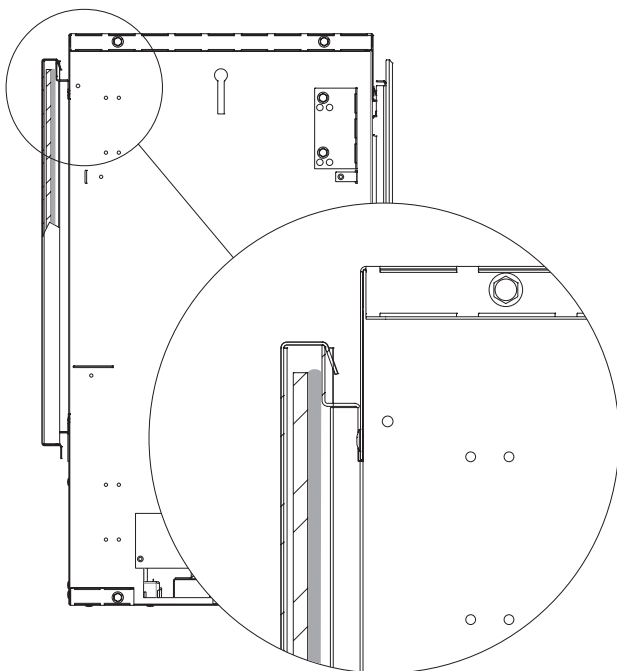

Figure 6
7. Examine gasket along the side of the fireplace to verify the seal is against the side mount brackets. See Figure 6.